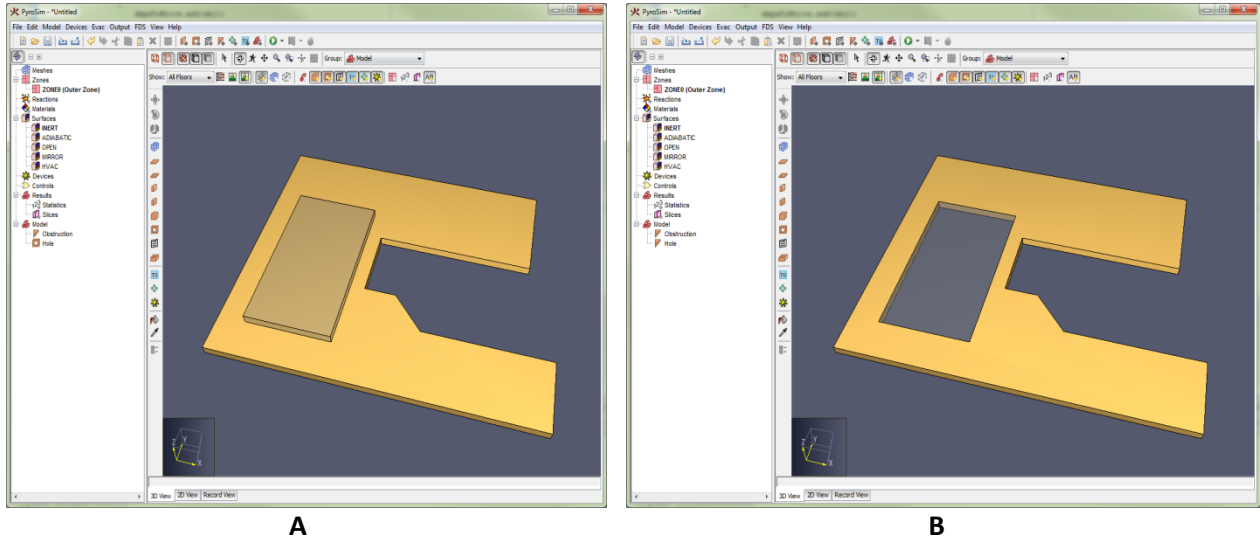

Figure 8.13. Improper vs proper hole drawing in the 3D view
While stacking can be useful for obstructions, a user must be more careful when drawing holes in the **3D View**. For instance, with the **slab hole tool** and **block hole tool**, the user will need to change the extrusion direction to properly direct the hole into the obstruction. For instance, if the user draws a slab obstruction in the **3D View** and then draws a slab hole while snapping to the obstruction, the hole will be stacked on top of the obstruction without cutting a hole as shown in Figure 8.13 (A). To draw this
properly, the user would need to change the extrusion direction when drawing the hole by pressing **CTRL** on the keyboard or changing it through the tool's right-click menu. This will result in a proper hole as shown in Figure 8.13 (B). This is not a problem in the **2D View** since it always uses the drawing plane set in the tool properties instead of stacking the objects.